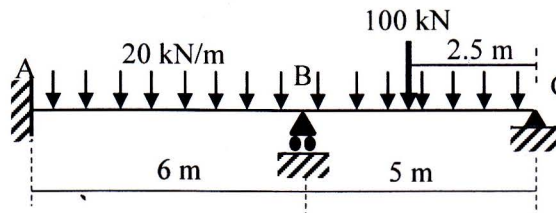

Figure 4(b): RC continuous beam
- b) Analyze the reinforced concrete continuous beam ABC shown in **Figure 4(b)** for bending moment and shear force using Moment Distribution Method. EI is constant.